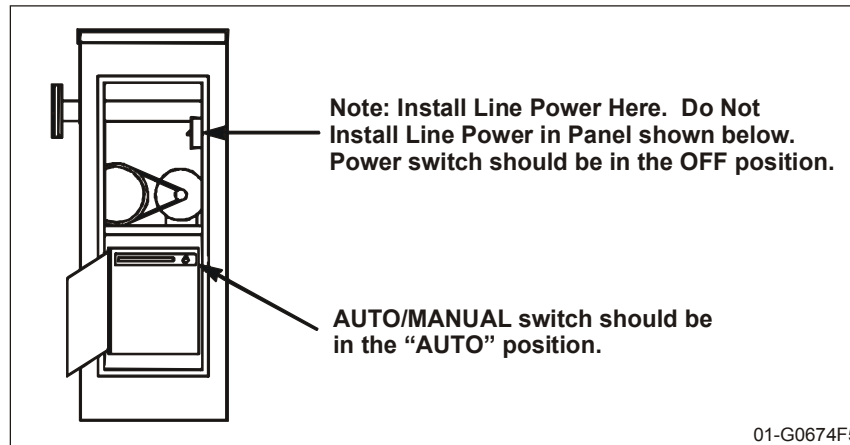

Figure 3
- 2 Run electrical power to the site according to local electrical codes. See Table 3 below for correct wire size and length of run (see also Figure 3). If the wire gauge is too high (wire too small) or the run is too long, the gate may not run properly or may not run at all. **Damage to components may result.**
- 3 Connect power supply wires to the ON/OFF power switch as shown on the operator wiring diagram and Figure 3 (see page 9). Do Not connect power at control panel (L1, L2, L3). Route wires away from belt and limit switches.